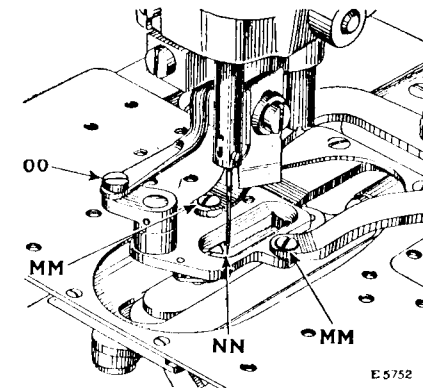
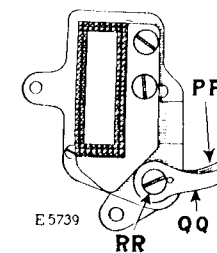

Fig. 25. Adjustments for Setting
Fig. 26. Showing Upper Thread Trimming
Remove the screw (OO, Fig. 25) from the connecting rod and take out the two clamp arm screws (MM, Fig. 25), then remove the clamp check from the machine. Remove the screw (RR, Fig. 26) from the underside of the clamp check which holds the clamping and trimming blades in position and remove the blades.
When replacing the blades, place the clamping blade (PP, Fig. 26) in position first next to the clamp check then put on the trimming blade (QQ, Fig. 26) and securely fasten both blades in position by means of the screw (RR), being careful to set the clamping blade about $\frac{1}{16}$ inch in advance of the trimming blade
as shown in Fig. 26. Then fasten the clamp check to the machine by means of the three screws (OO and MM, Fig. 25).
When the trimming blade is being moved into cutting position, it must clear the needle by $\frac{1}{32}$ inch as shown at NN in Fig. 25, when the needle is on the outside throw on the finishing side